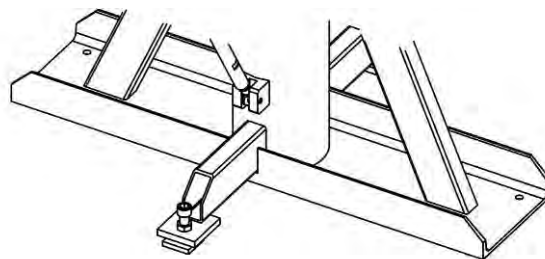

FIGURE 2 – Pedestal Base with Fixing Holes & Jacking Screws
- 1.4 Locate jacking plates (supplied) under jacking screws, as shown in figure 2.